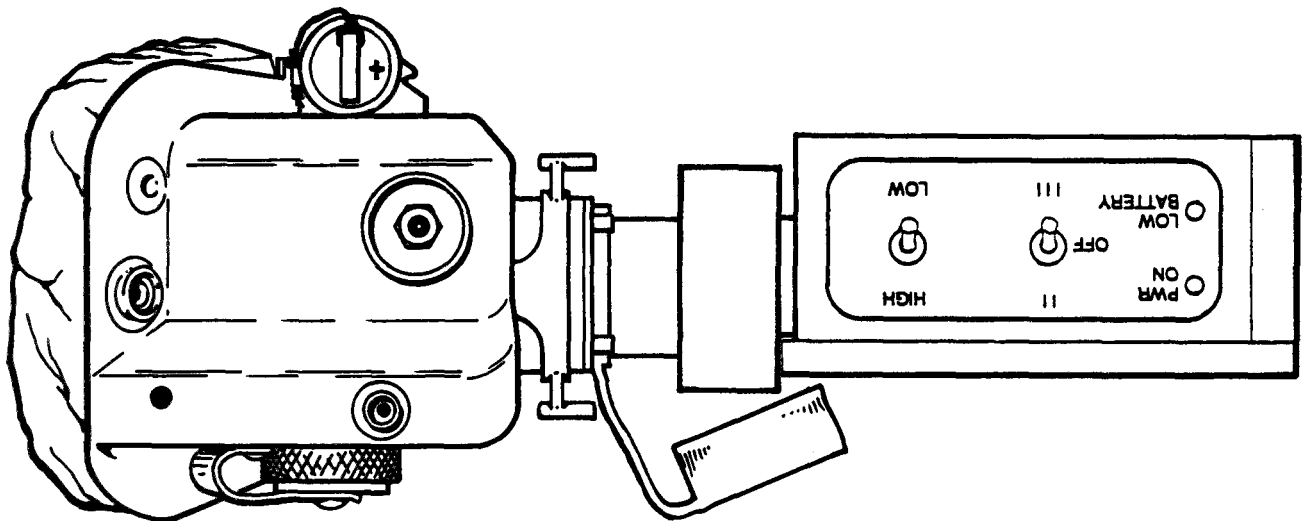

Figure 3-7. Attaching the TS-4348/UV Test Set to the NVG
3. Hold the test set squarely onto the front of the exposed objective lens of one monocular as shown in Figure 3-7. Continue to hold the test set squarely onto the end of the objective lens while performing the following steps. If you do not hold the test set, it may fall off the end of the monocular.